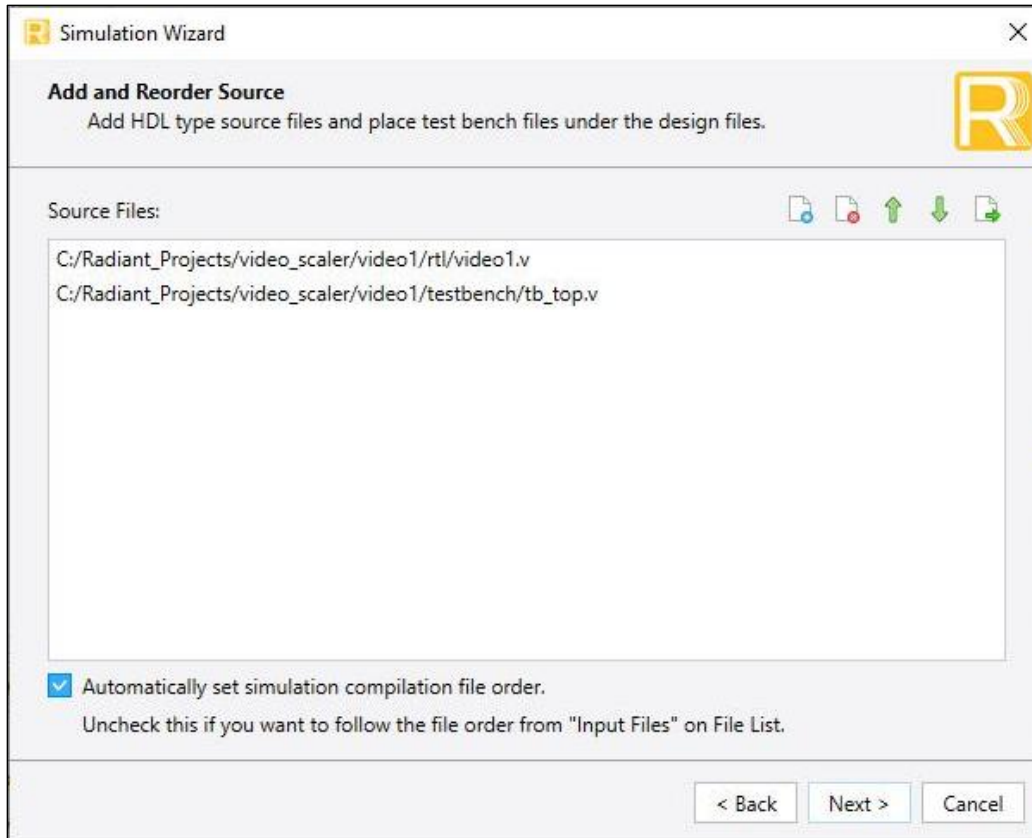

Figure 6.5. Adding and Reordering Source
2. Click **Next** to open the **Add and Reorder Source** page as shown in Figure 6.5.